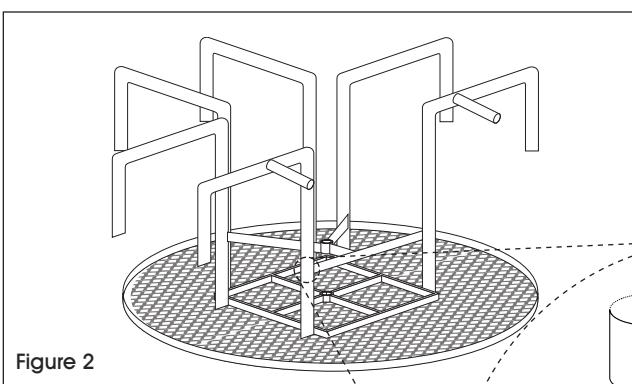

Figure 2
3. Insert the V brace with the umbrella brace facing upward and loosely bolt to the corresponding corners using one bolt, one washer and one nut. (See Figure 2)